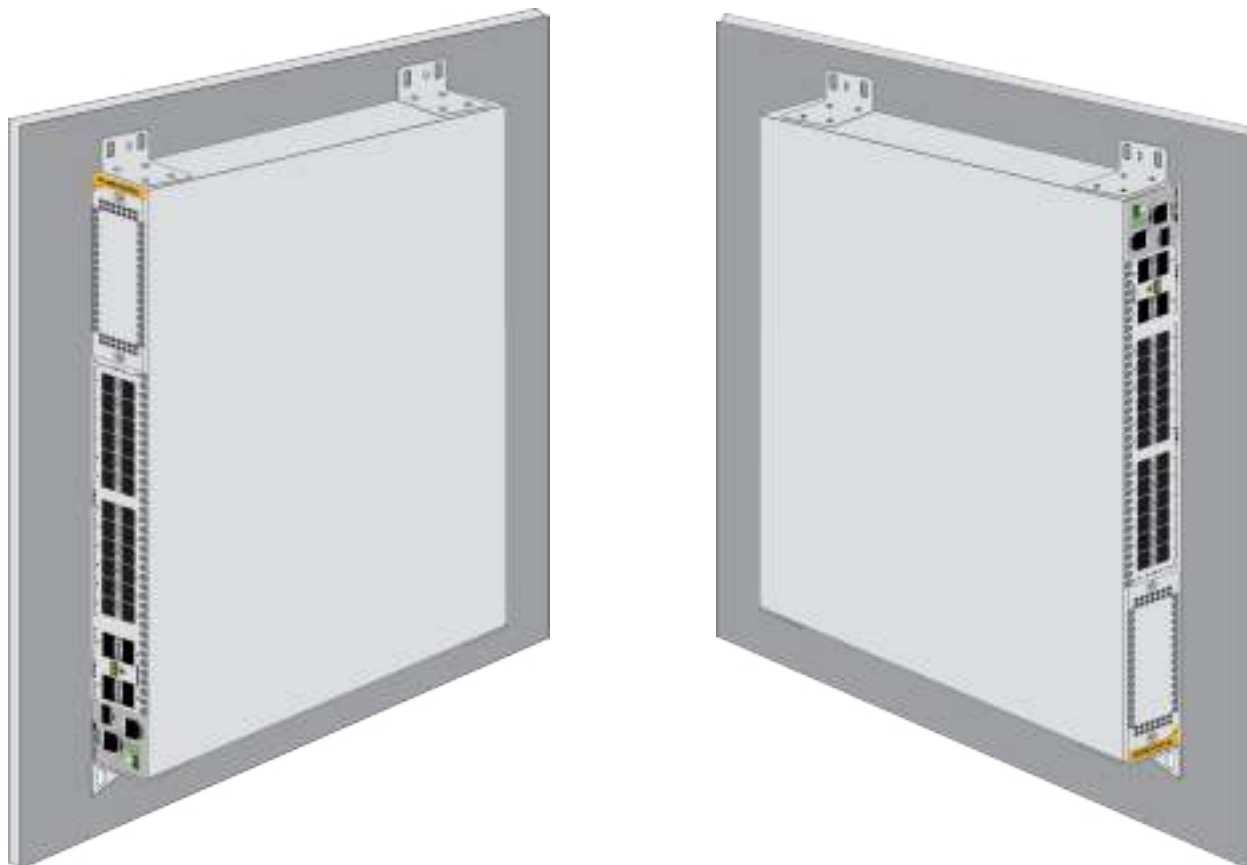

Figure 69. Positions of the Switch on the Wall
You can install the switch on a wall with the front panel on the left or right, as shown in Figure 69. Do not install it with the front panel on the top or bottom.
- ☐ Position the switch so that the front panel is either on the left or the right. Refer to Figure 69 on page 116. You may not install the switch with the front panel facing up or down.